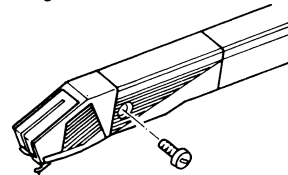

Fig. 7
1. Remove the cartridge fixing screw (Fig. 7).